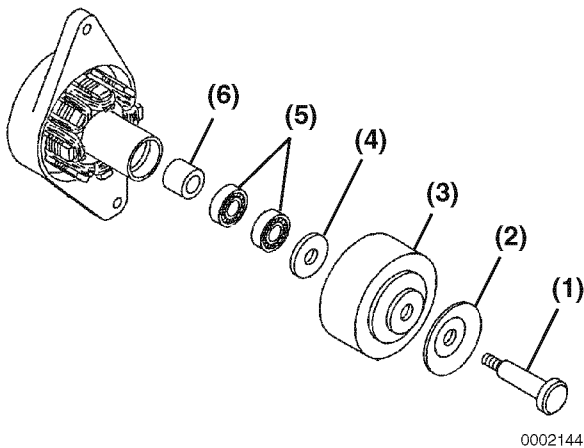

Figure 11-25
3. Remove the through bolt (**Figure 11-25, (1)**), pulley half (**Figure 11-25, (2)**), flywheel (**Figure 11-25, (3)**), flat washer (**Figure 11-25, (4)**), bearings (**Figure 11-25, (5)**), and spacer (**Figure 11-25, (6)**).